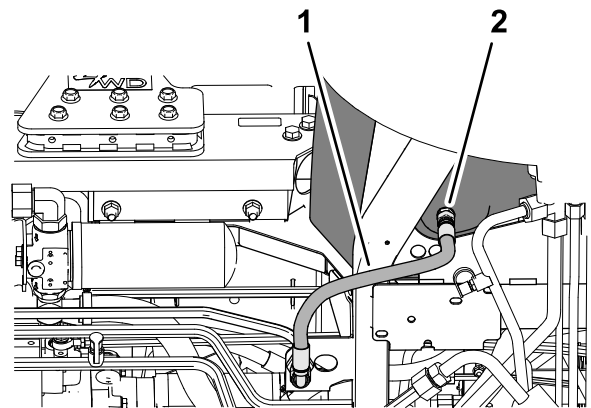

Figure 118
- Align the drain pan under the hydraulic tank (Figure 118).